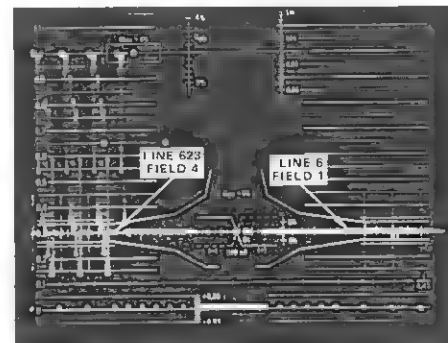

Figure 4.
8. Depress the FIELD 4 pushbutton. Check the display against that in Figure 4 and use Table 1 to determine if burst is occurring on the correct lines. Follow the remainder of Table 1 using Figure 5 as a reference to check out the entire Bruch blanking sequence.